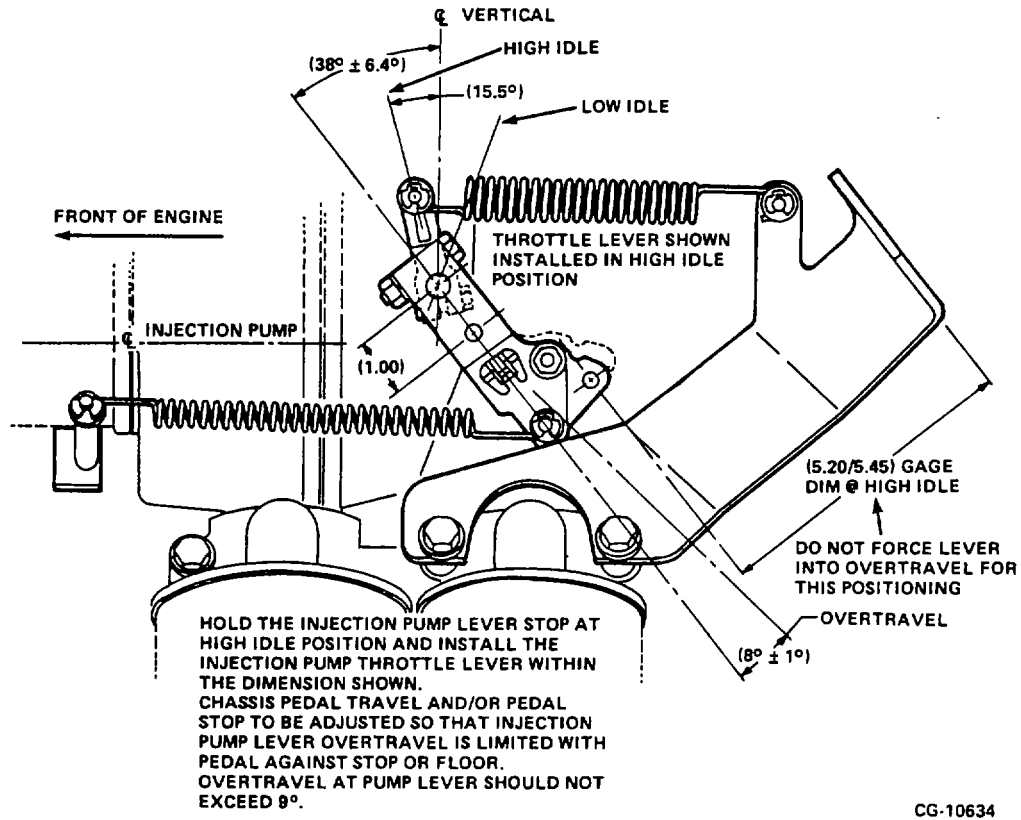

Figure 4b. "S" Series Version "II" Linkage (Without Bellcrank)
LINKAGE ADJUSTMENTS: (Without Bellcrank) Refer to Figure 4a for Version "I" Linkage [Standard Regulation Governor], Figure 4b for Version "II" Linkage [Close Regulation Governor]
1. Hold the (cast) inner throttle lever in high idle position. Move the outer (sheet metal) throttle lever to the 5.20"/5.68" dimension for Version "I" (Figure 4a) or 5.20"/5.45" dimension for Version "II" (Figure 4b). Use a ruler to measure the gauge dimension.